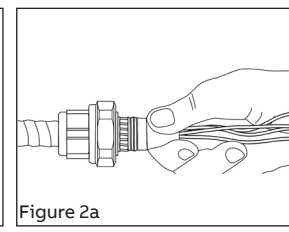

Figure 2a
- 2a Screw the sealing chamber back on the body subassembly until it completely seats on the body (Figure 2a).